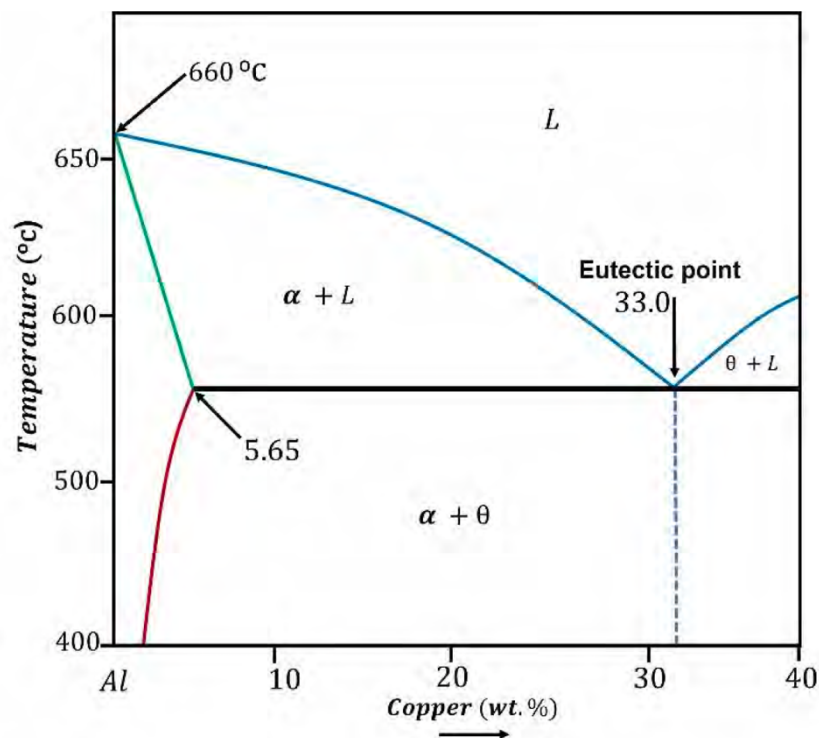

Fig. 3.1: Aluminium-rich end of the aluminium–copper equilibrium phase diagram
- **Al-Cu System (Fig. 3.1):** Maximum solubility of Cu in Al is 5.65 wt.% at 548°C , dropping to $<0.25\%$ at room temperature. This system is the basis for precipitation hardening.